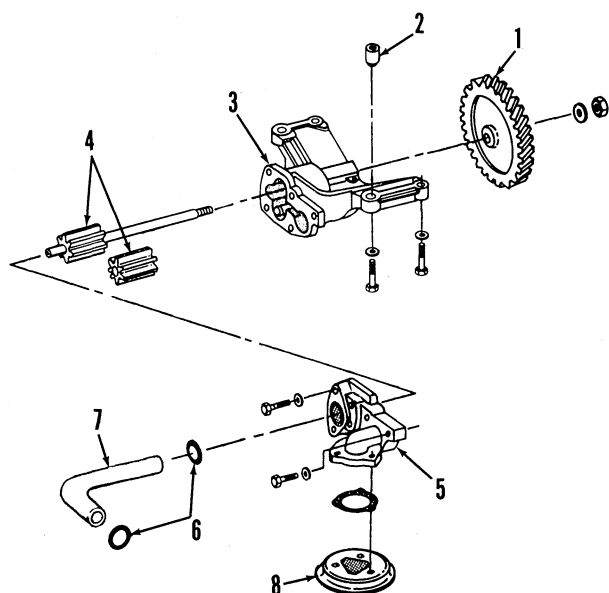

Fig. 55—Exploded view of engine oil pump.
To disassemble pump, remove drive gear (1—Fig. 55) and cover (5). Withdraw gears (4) from pump housing. Inspect for damage and renew pump if necessary.